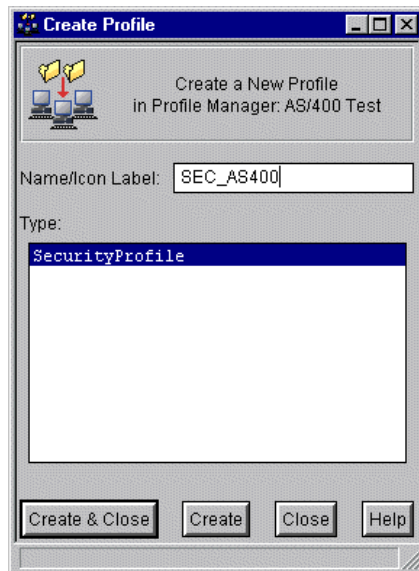

Figure 312. Creating a Security Management profile
1. Using the Profile Manager, create a new security profile. Choose a type of SecurityProfile in the Create Profile screen as shown in Figure 312.